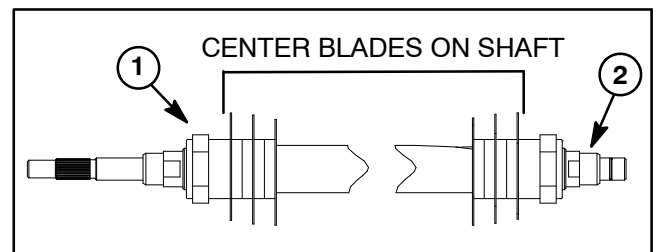

Figure 18
4. Position lock nuts to allow blades and spacers to be centered on the shaft (Fig. 18). Torque lock nuts from **200 to 250 in-lb (23 to 28 N-m)** so spacers are **not** free to rotate.